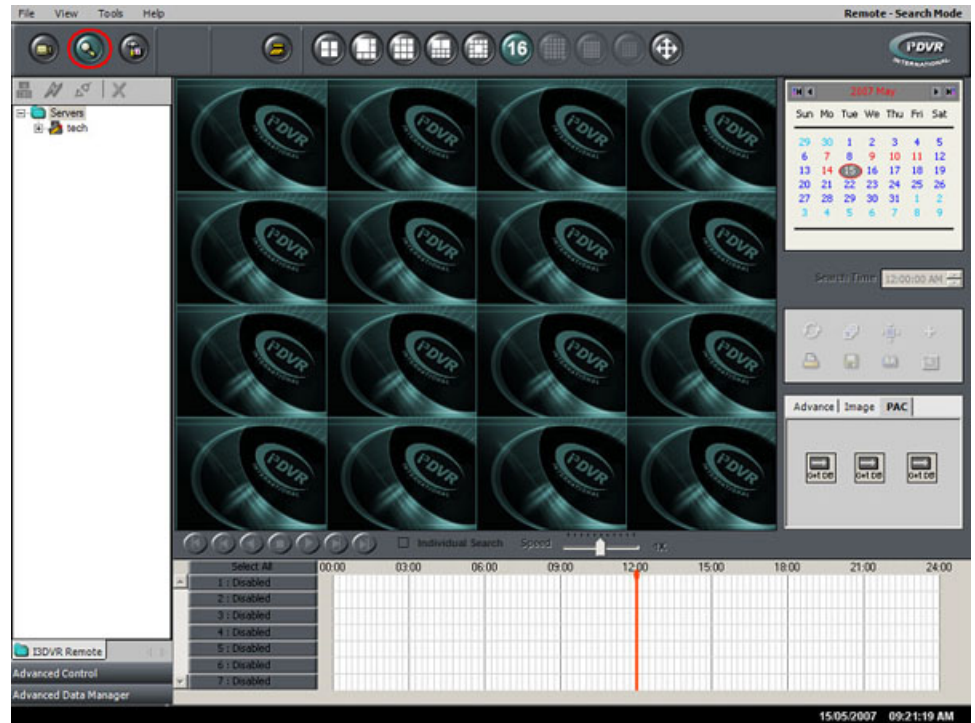

Figure 90 – Search Mode
1. Click on the Search Mode button, on the SRX-Pro main screen, the screen should appear as the screen in Figure 90.